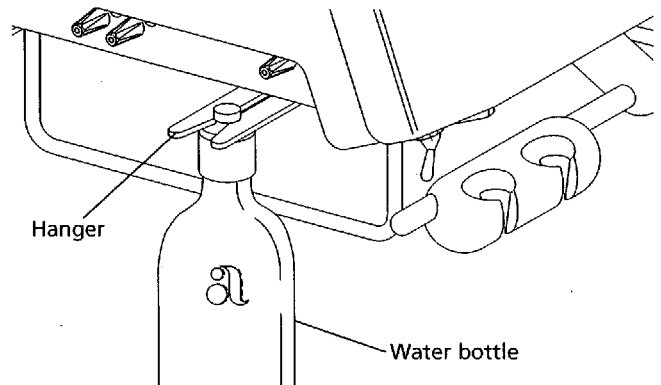

Figure 14. Install the water bottle.
17. Install the water bottle on the left hanger below the controls (see Figure 14).